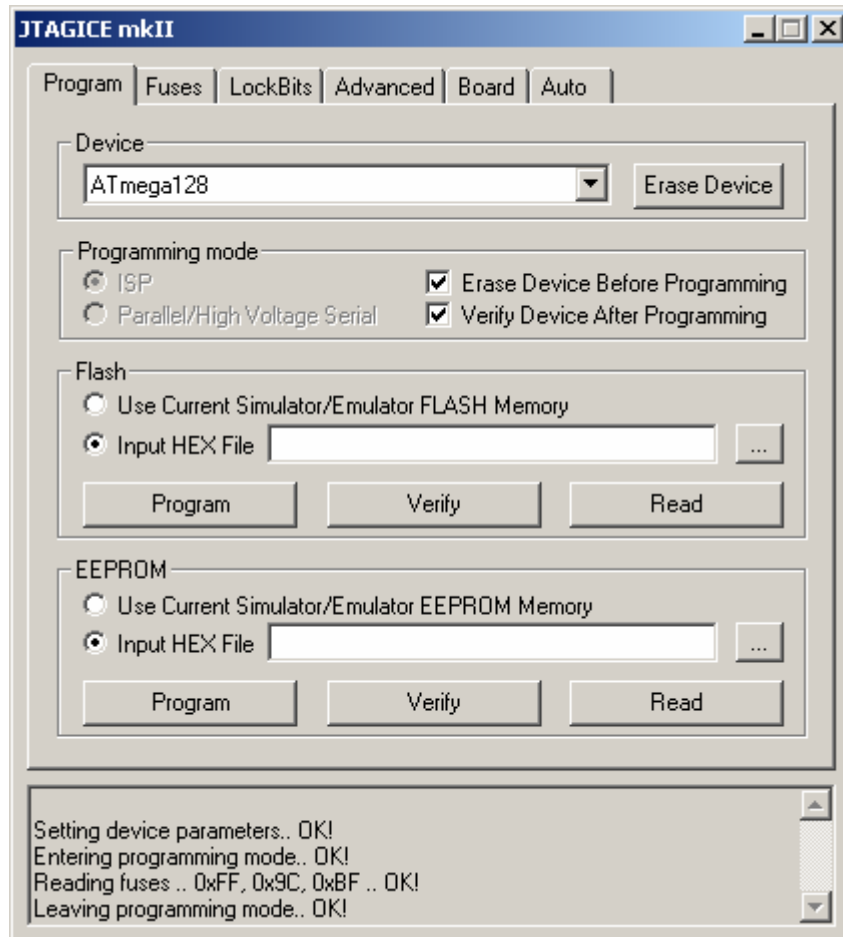

Figure 22: JTAG ICE mkII Program Window
- Open AVR Studio and click on the AVR button. When AVR Studio detects the programming device connected to the CC2420DB the programming settings window will appear. Please refer to figure 22.
6. In AVR Studio select Tools→AVR Prog... from the menu (See figure 22)